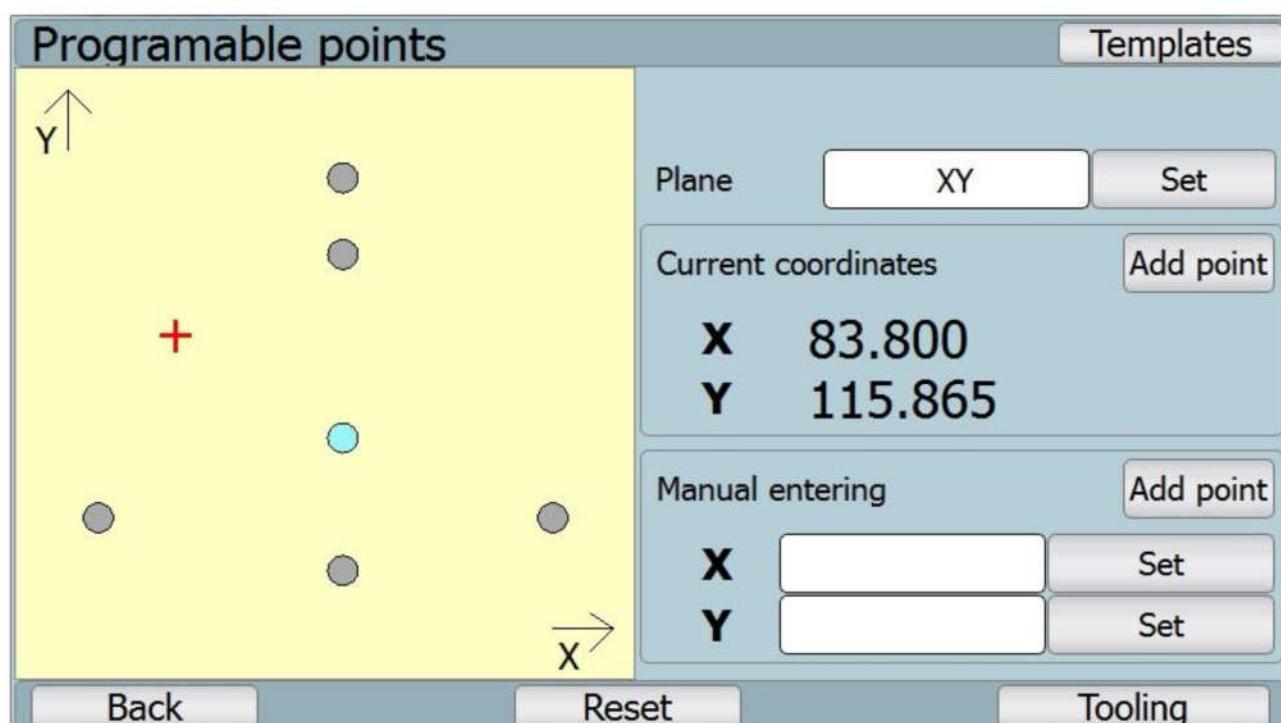

Fig. 23: Programmable points
- ⑩ It is used for entering individual whole to be drilled.
- ⑩ At first, select the plane for drilling
- ⑩ There are two ways of entering the holes for drilling:
1. It displays the actual tool coordinates and using button „Pridat bod“ (add point) to insert the hole in the scene for the actual coordinates (see fig. 23: Programmable points).
- ⑩ Every entered hole can be edited independently – shift in defined plane axes. This option is achieved by marking the hole in the scene (finger or stylus). Marked hole is green.
- ⑩ The hole can be deleted from the scene using button „Odstranit“ (delete).
- ⑩ After returning to the initial setting, it is possible to use button „Zpet“ (back) on the right or mark a location where no hole is drawn in the scene.
- ⑩ As soon as all parts are entered, press button „Obrabeni“ (machining) to get back to the machining mode where individual holes can be drilled.
- ⑩ Button „Reset“ returns everything into the initial setting